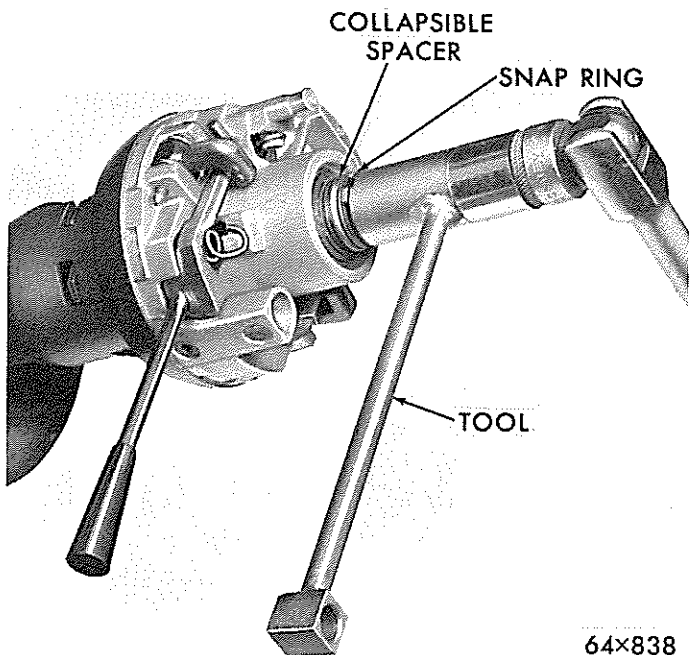
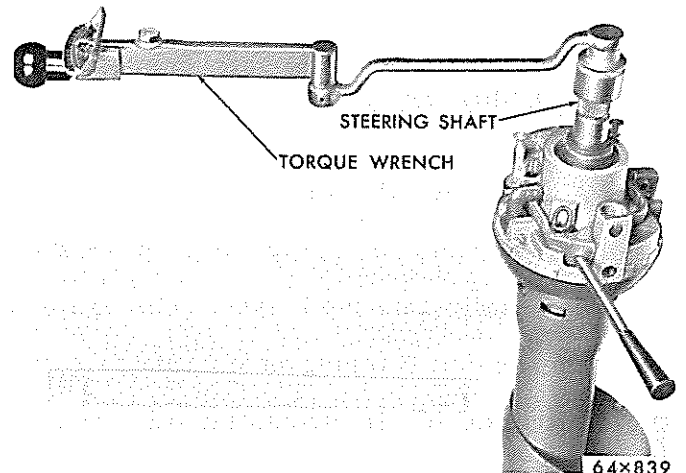

Fig. 38 - Installing the Upper Bearing Retaining Ring
Fig. 39 - Checking the Steering Shaft Torque
- (12) Install the snap ring over the upper sheering shaft and against the collapsible spacer, then place Tool C-3957 over the steering shaft with the small window (cut out) at the bottom of the tool in line with the snap ring opening (Fig. 38).
- (13) Install the steering wheel nut on the tool and upper steering shaft and tighten the nut until the top edge of the window (cut out) in the tool is in line with the upper edge of the snap ring groove. This will compress the collapsible spacer and preload the upper shaft bearings.
- (14) Remove the steering wheel nut and Tool C-3957, making sure the snap ring is seated in the shaft groove.
- (15) Check the steering shaft torque as follows:
- c. Check the torque with an inch-pound torque wrench and a 3/4 inch twelve point socket (Fig. 39). The shaft should rotate with the column in the full "up" position and the full "down" position with a maximum reading of 2-1/2 inch pounds torque. If the torque reading is greater than 2-1/2 inch pounds or if there is no torque reading, install a new collapsible spacer and recheck the torque.